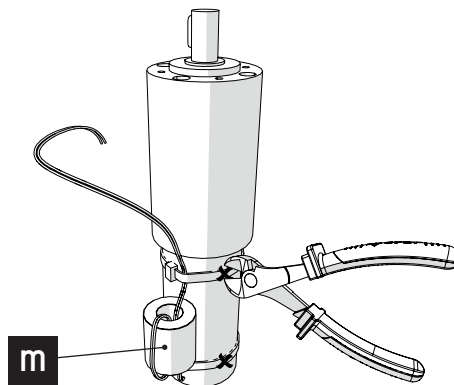

Fig. 32 - Motor replacement (Ferrite removal)
10. Using a wire cutter, cut the two clamps holding the motor power cable and the ferrite tube (**m**) (Fig. 32);